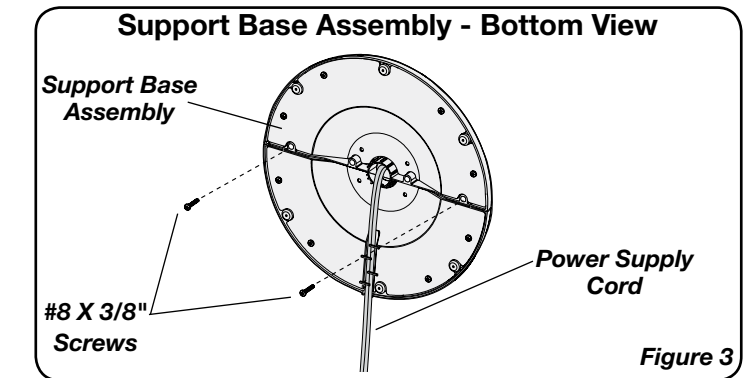

Figure 3
5. Secure the (2) #8 X 3/8" Screws into the two holes in the bottom of the base. (*Figure 3*)